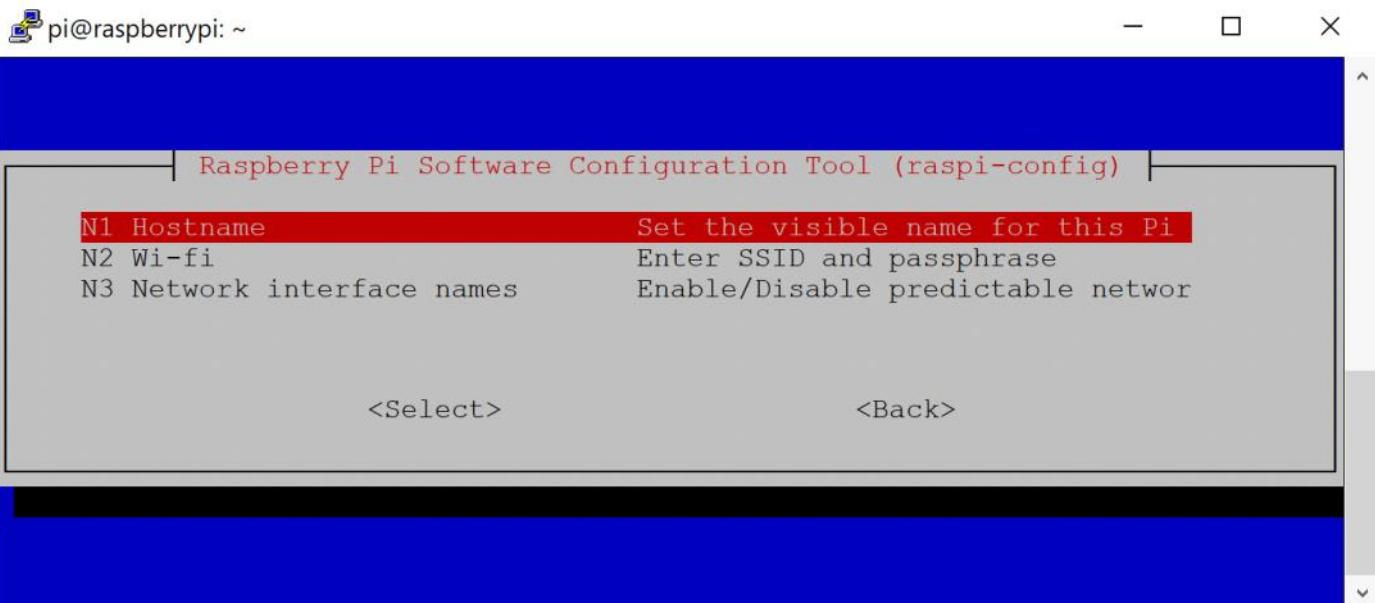

Figure 4.7 – Change the hostname
2. Now select **Hostname** as shown in *Figure 4.7*.